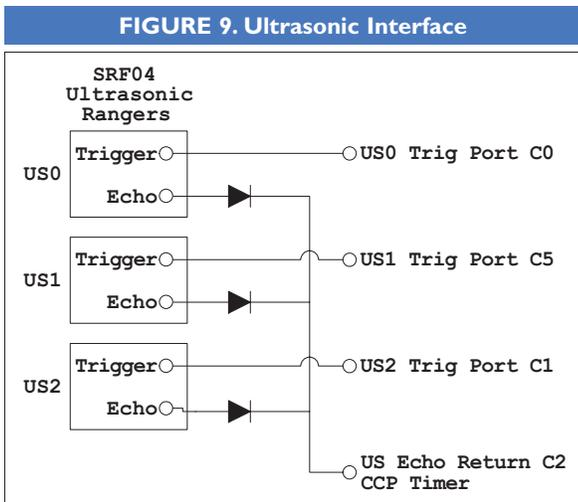

FIGURE 9. Ultrasonic Interface
- Pin 29 (CCP1/C2) is the Ultrasonic Sensor return line for all three sensors. The sensor's outputs are "wired-OR'd" together with the three diodes shown (Figure 9). C2 is a special port, tied to one of the two CCP (Capture/